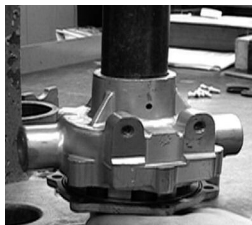

Figure 13
2. Remove the assembled portion from the arbor press and invert it on the press table. Then place rollers in the roller slots as close to center of rotor as possible. Place the pump body over rotor and shaft, and carefully ease the end of the shaft past the lips of the seal in pump body (Figure 12). Slowly press the pump body down to fit the endplate (Figure 13).
3. Turn pump over; line up bolt holes and replace assembly bolts. Alternately and evenly tighten the bolts as shown (Figure 13).